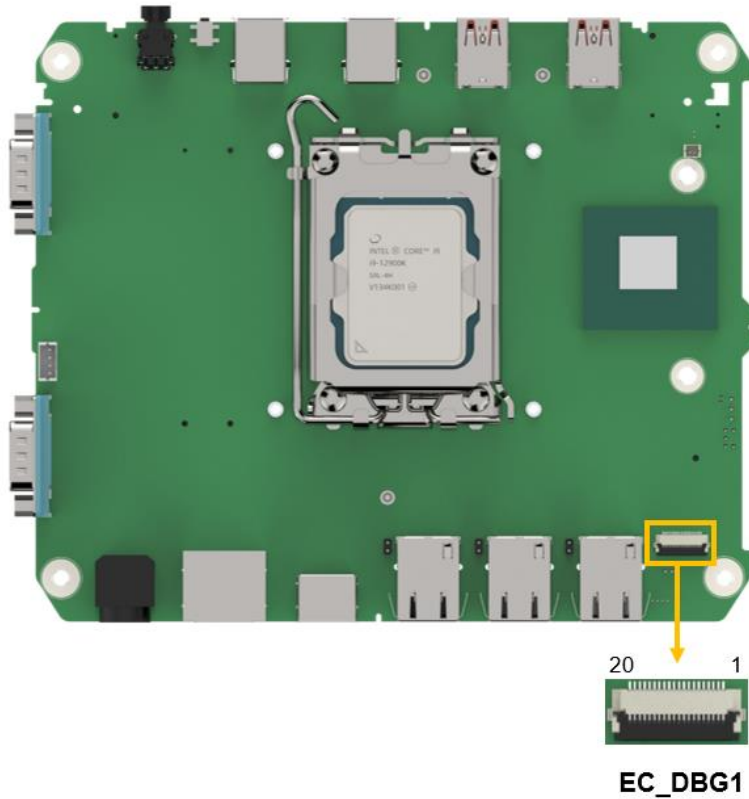

Figure 4-5: EC Debug Connector Location
- CN Location:** See Figure 4-5